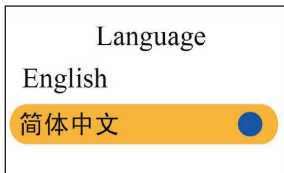

Figure 4.10C Language setup
- **Language:** This oximeter provides the display with two languages: English and Simplified Chinese, the factory default is “English”, as shown in figure 4.10C.